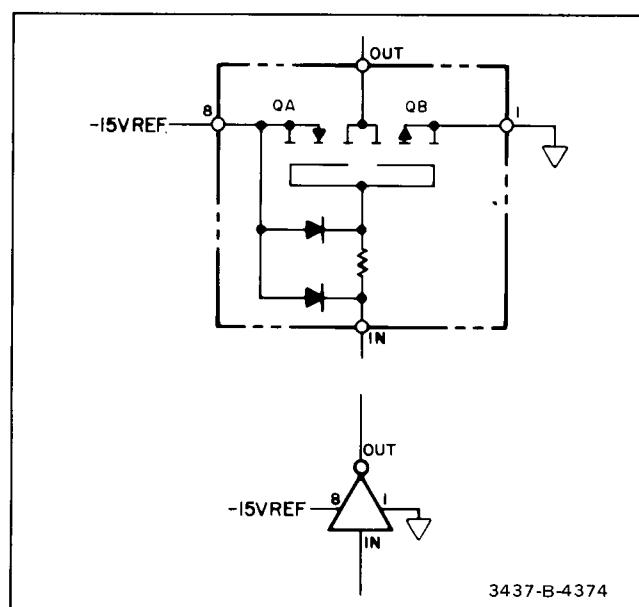

Figure 4-8. D/A Switch.
**4-36. SPDT Switches.** The converter switches illustrated in Figure 4-8 are used to switch either the reference voltage or ground to resistors in the weighted resistor array.